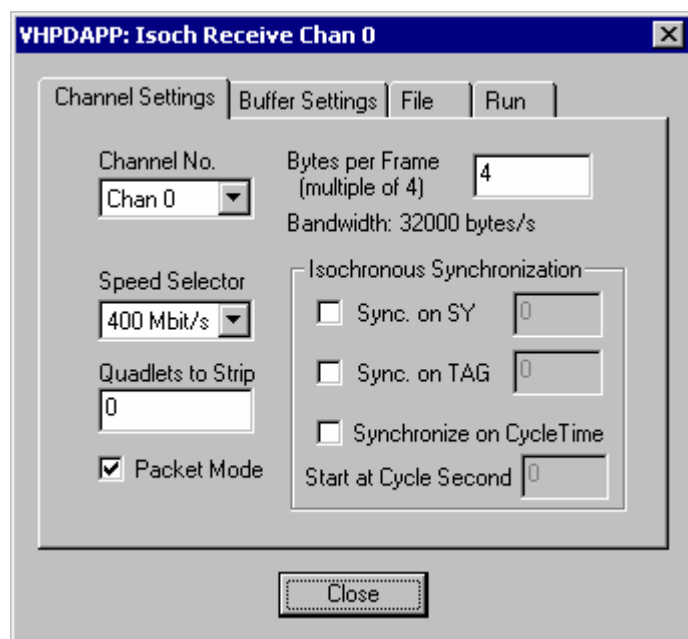

Figure 26: Isochronous setup #2 (VHPD demo)
- Set "quadlets to strip" to 0 as shown in Figure 26